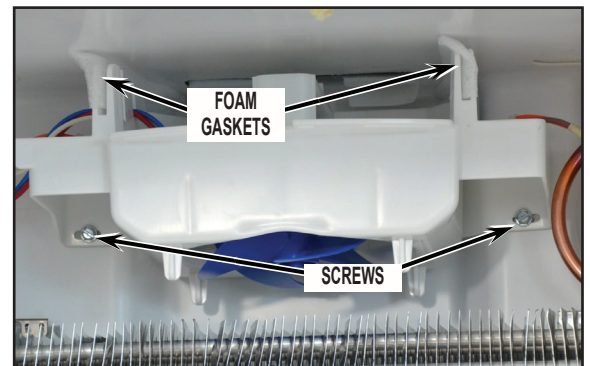

FIGURE 9
4. Remove 2 screws to remove the fan assembly. When installing fan make sure foam gaskets are in place. See *Figure 9*.